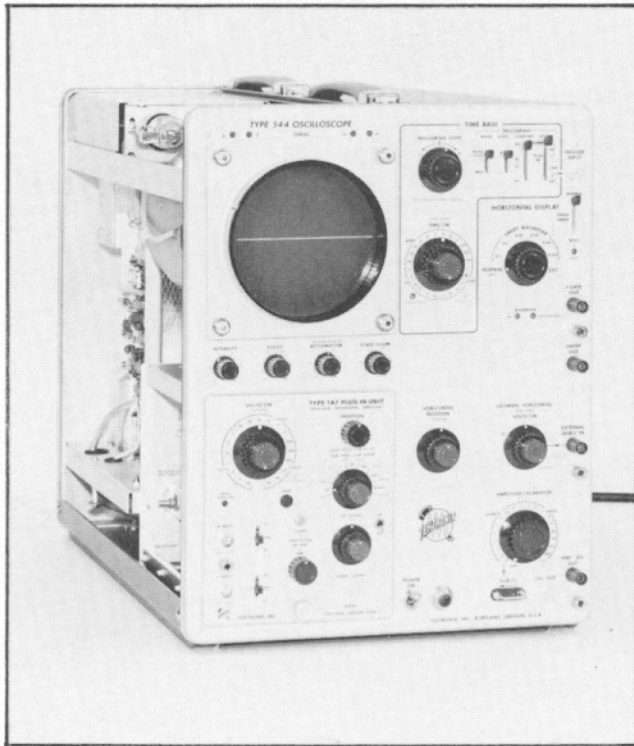

Fig. 6-5. Initial setup, step 1a.
1. Adjust STEP ATTEN DC BAL COARSE (R500) ①
- a. Initial setup is shown in Fig. 6-5.